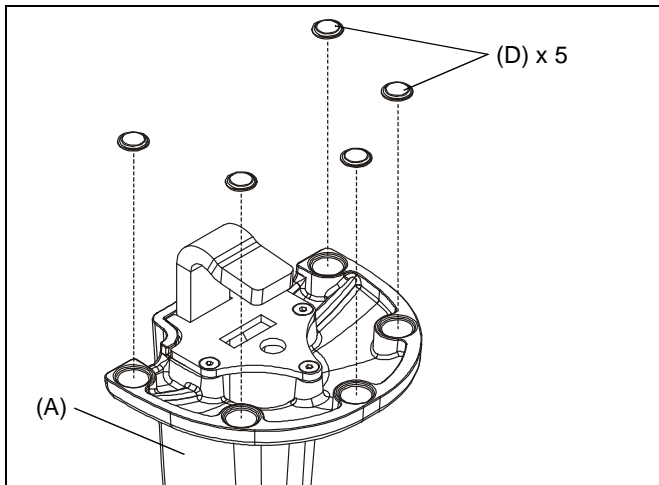

Figure 1
2. Peel backing from adhesive bumpers (D) and attach to bottom of mount (A) (See Figure 1).
**NOTE:** One extra bumper (D) included for convenience.